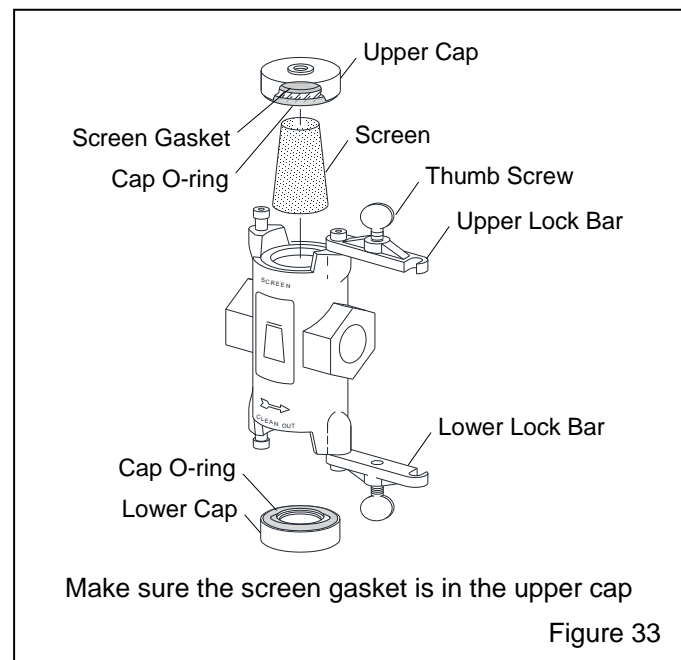

Figure 33
7.5 Abrasive Trap, Refer to Figure 33
7.5.5 Install the screen in the top section. The smallest diameter end of the screen must face up as shown in Figure 33.